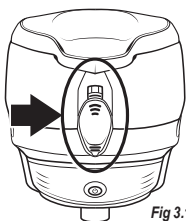

Fig 3.1
1. Locate the Button Lock and Shell Release Button on the back of the loader (Fig 3.1).